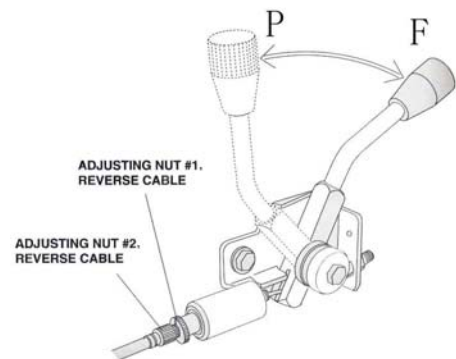

Figure 6
a. Press down the reverse lever to the “F” position so that the unit can move forwards; pull back the lever to “P” so that the unit can park. (See Fig. 6) Adjust Nut #1; Make sure cable is not too tight or too loose. Adjust Nut #2 accordingly to adjustment of Nut #1. Figure 6